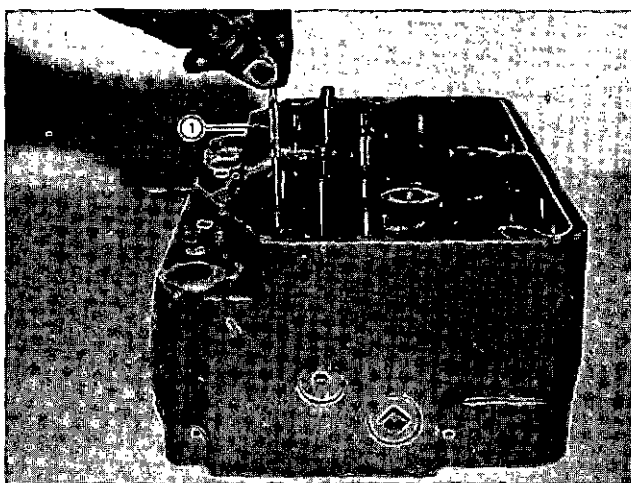

Fig. 2-11 (N10212). Measure The Bore Of The Valve Guide.
2. Use a bore gauge (1), Fig. 2-11 to check the bore at four points spaced 90 degrees apart to find if the bore is out-of-round. Check the full length of the bore.